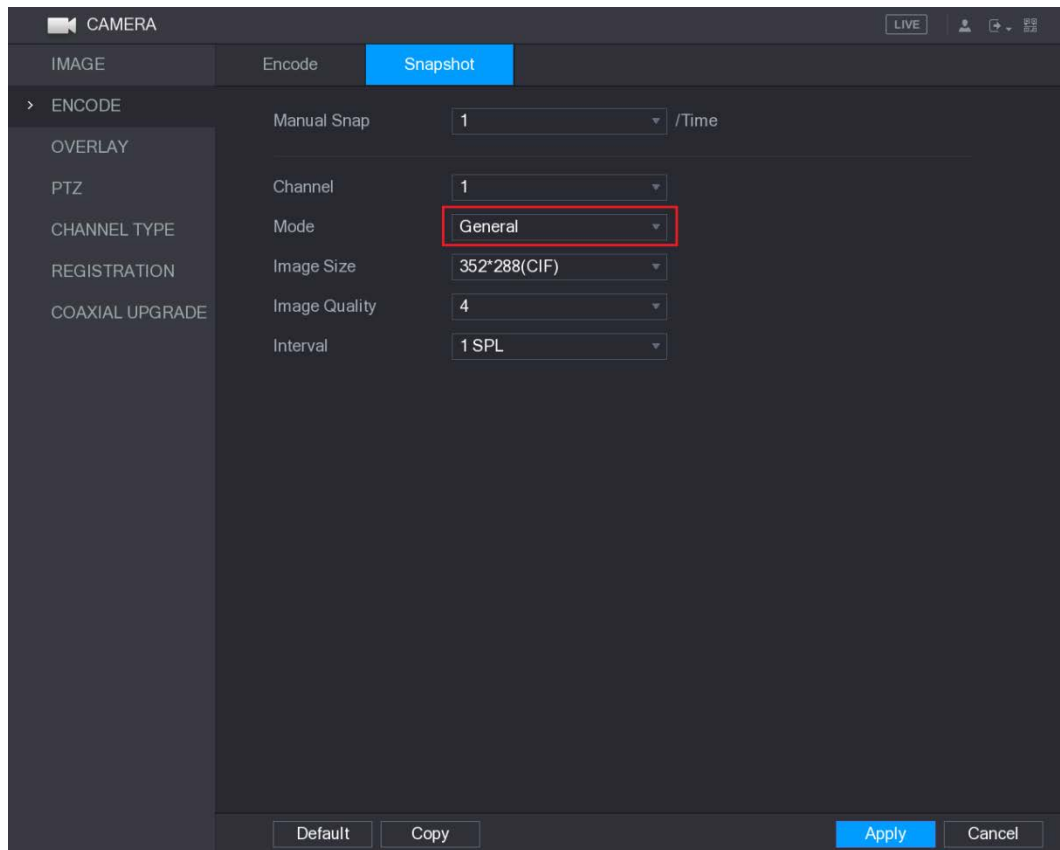

Figure 5-92
Step 5 In the **Mode** list, select **General**, and then configure other parameters. See Figure 5-92.